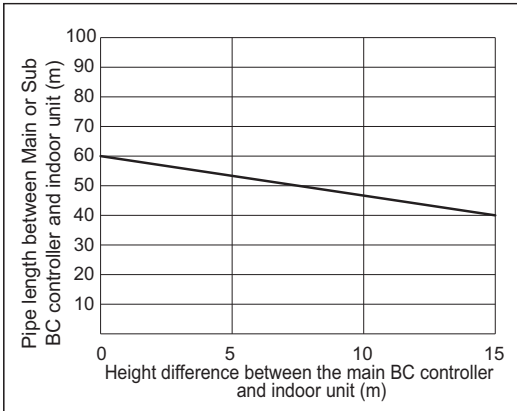

Fig. 2
- \*2. Details refer to Fig. 2.
- \*9. When the piping length or the vertical separation exceeds the limit specified in Fig. 2, connect a sub BC to the system. The restriction for a system with a sub BC connection is shown in Fig. 3. When a given system configuration falls within the shaded area in Fig. 3, increase the size of the high-pressure pipe and the liquid pipe between the main BC and sub BC by one size. When using P/M32, P/M40, P/M50, P/M100, or P/M125 model of indoor units, increase the size of the liquid branch pipe between the sub BC and indoor unit by one size. When using indoor models P/M140 or larger, the restrictions shown in Fig. 2 cannot be exceeded.
\*9. When the piping length or the vertical separation exceeds the limit specified in Fig. 2, connect a sub BC to the system.
When using indoor models P/M140 or larger, the restrictions shown in Fig. 2 cannot be exceeded.